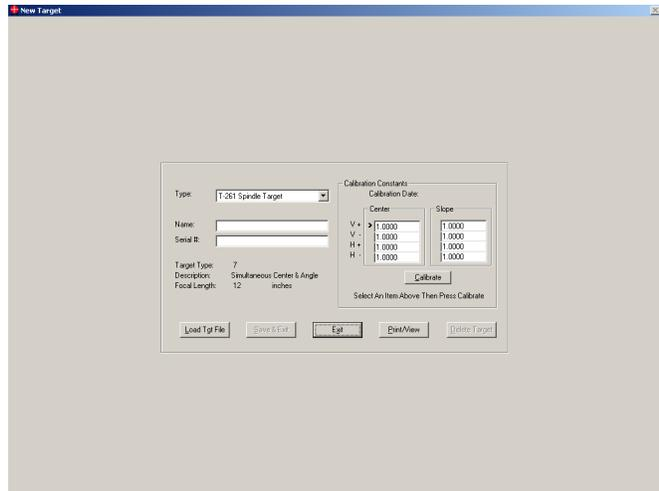

Figure 24 – New Target Screen
1. Click **New Target button (Alt-N)** on the **Target Setup** screen to display the **New Target** screen (see Figure 24).